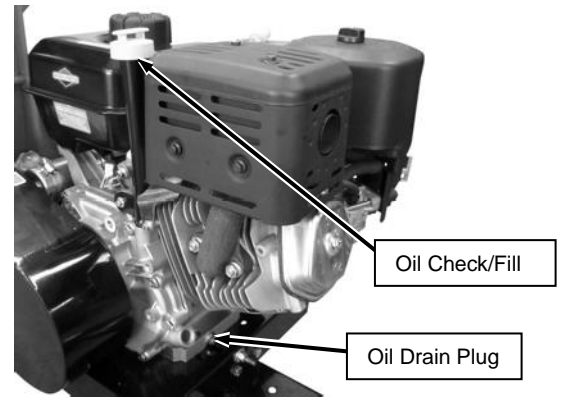

Figure 40a: WC475 Model
1. Position a suitable oil receptacle under the engine oil Drain Plug and remove the Engine Oil Check/Fill Cap (**Figure 40a or 40b**).